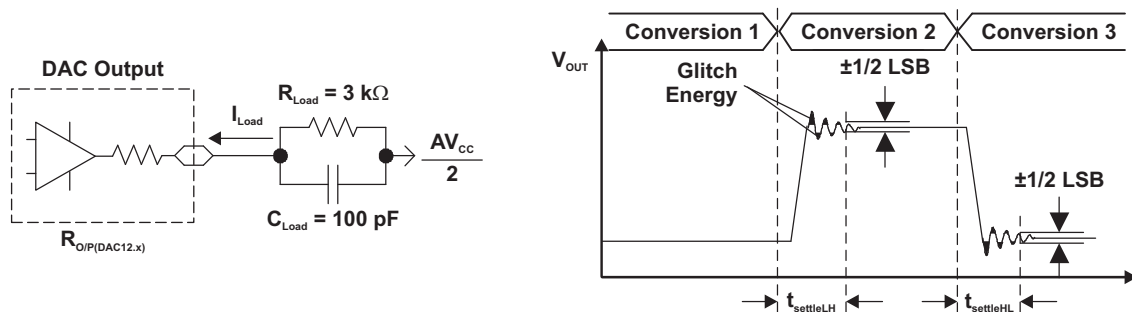
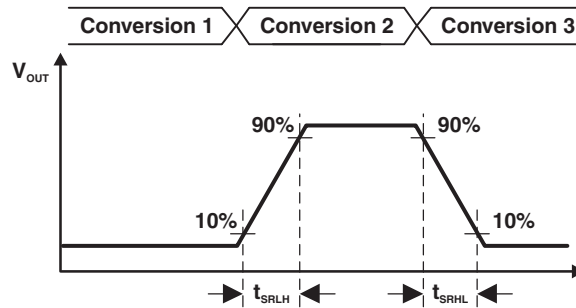

Figure 20. Settling Time and Glitch Energy Testing
Figure 21. Slew Rate Testing
V_{REF} = V_{CC}, DAC12IR = 1 (see Figure 20 and Figure 21), over recommended ranges of supply voltage and operating free-air temperature (unless otherwise noted)
(1) R_{Load} and C_{Load} connected to AV_{SS} (not AV_{CC}/2) in Figure 20.
(2) Slew rate applies to output voltage steps ≥ 200 mV.